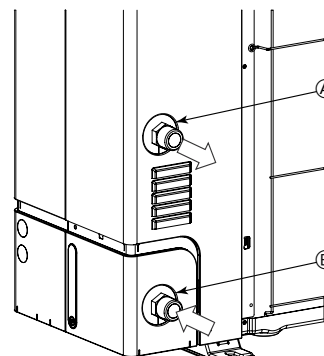

Fig. 5-1
5.1. Water piping connection (Fig.5-1)
- Inlet and outlet pipes position is shown on the Fig.5-1.
[Fig. 5-1]